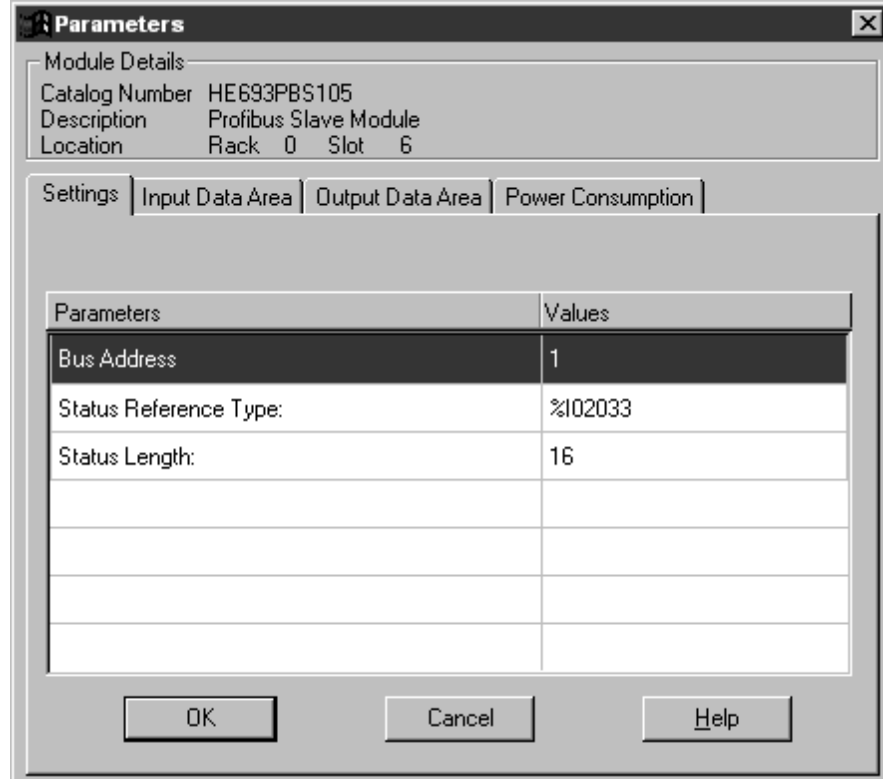

Figure 2.3
Step 6: Click on the "Communications" tab and select HE693PBS105. The empty slot on the virtual PLC should be replaced with the PBS module and the following screen will appear (**Figure 2-3**). Note: If HE693PBS105 is not located on the Communications tab, see **Appendix A**.